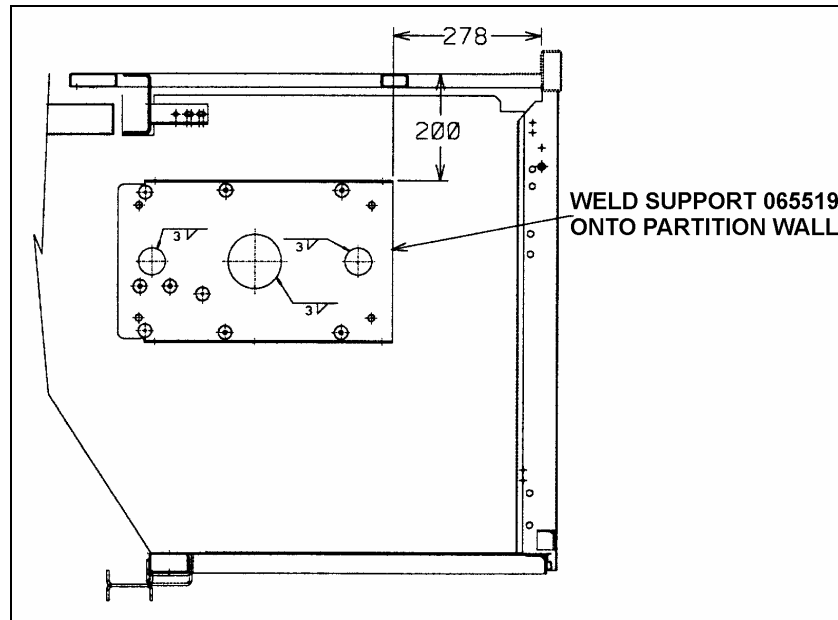

FIGURE 1
2. Weld support (065519) onto compartment rear partition wall as per instructions in figure 1.
- e. Weld support as per figure 1 and refer to paragraph: **Steel – Steel Welding** for welding specifications: